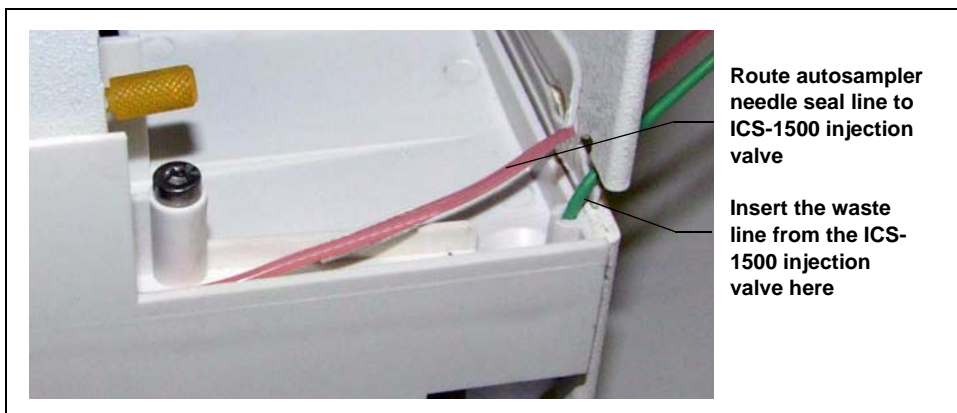

Figure 39. Autosampler Drip Tray
3. The needle seal line that extends from the inject port in the autosampler is coiled inside the autosampler door, on the right side. Route this line through the autosampler right side slot (see Figure 39) and the ICS-1500 left side slot to the ICS-1500 injection valve.
6. Push the end of the green **AS/AS50 TRAY** line into the small round opening on the right side of the AS or AS50 (USB) tray (see Figure 39).